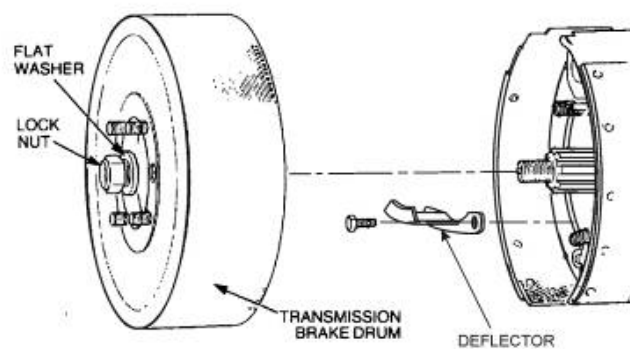

Figure 58 Output Shaft Cover Oils Seal Removal (Rear)
- d. Remove the locknut and flat washer (Figure 58). Discard the locknut.